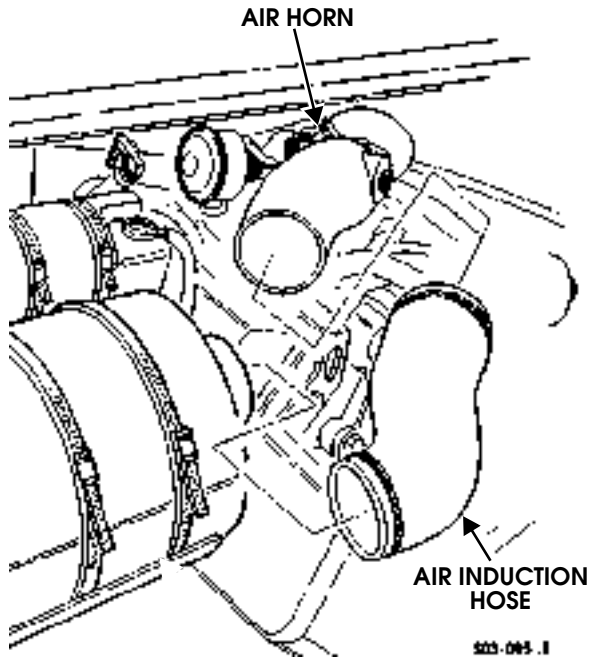

Figure 3-26: Air Induction Hose Attachment
2. Remove hose from air horn and air cleaner (Figure 3-26).
2. Tighten hose clamps to 44 lb-in. (5 N•m) (Figure 3-26).